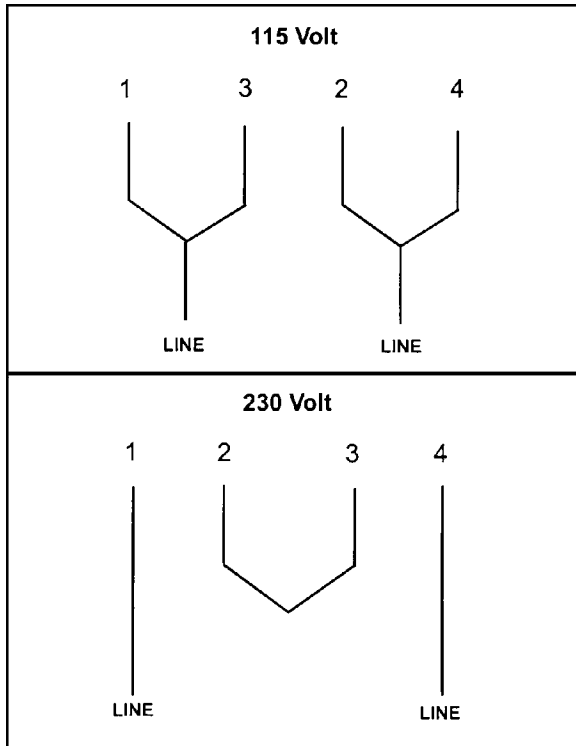

Figure 23
- This band saw is supplied with four motor leads that are connected for 115V operation, as shown in Figure 23. Reconnect these four motor leads for 230V operation, as shown in Figure 23.